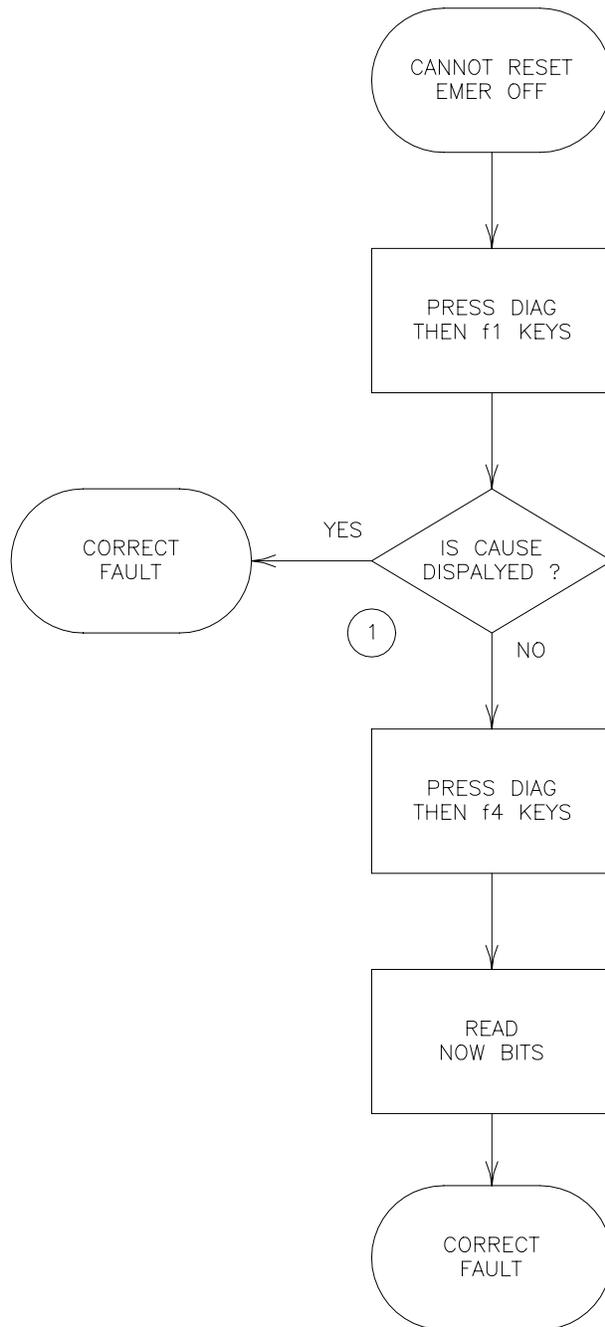

FIGURE 6.3.4 EMER OFF FLOW CHART
4. The EMER OFF lamp should be off. If you suspect the lamp it's self is bad press the EMER OFF button. This will cause the EMER OFF lamp to light. Pressing START RESET should clear the EMER OFF. If an EMER OFF cannot be cleared go to figure 6.3.4.
The numbered comments below correspond to the circled numbers on figure 6.3.4 and provide detailed instructions relative to the referenced step.